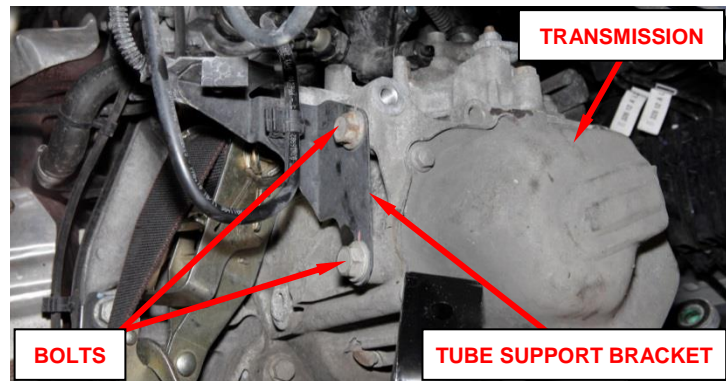

Figure 50 – Hydraulic Tube Support Bracket
57. Remove and save the two bolts attaching the clutch hydraulic tube support bracket (Figure 50).
90. Install the two bolts attaching the clutch hydraulic tube support bracket to the transmission. Tighten the bolts to 45 N·m (33 ft. lbs.) (Figure 50).